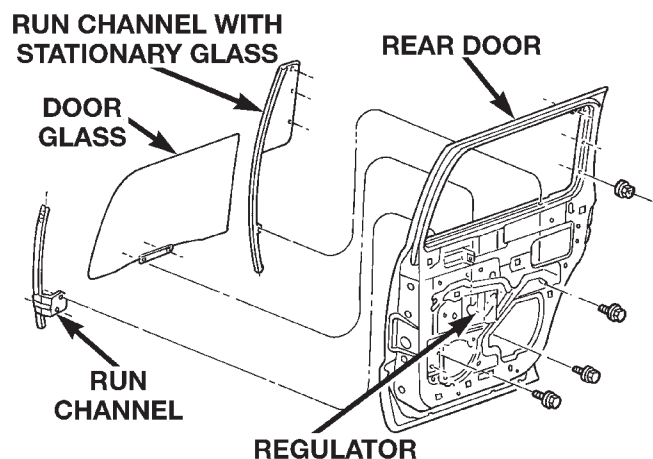

Fig. 6 Rear Door Stationary Glass
- (1) Remove trim panel.
- (2) Remove waterdam.
- (3) Remove inner beltline weatherstrip.
- (4) Remove outer beltline weatherstrip.
- (5) Remove door glass from door.
- (6) Remove bolt attaching bottom of rearward run channel to door inner panel.
- (7) Remove nuts attaching stationary glass to door (Fig. 6).
- (8) Separate rearward run channel/stationary glass from door.
- (9) Pull to separate stationary glass from run channel.
- (1) Ensure glass and run channel are clean.
- (2) Apply butyl adhesive to glass and insert in glass run channel.
- (3) Install nuts attaching stationary glass to door. Tighten nuts to 3 N·m (30 in. lbs.) torque (Fig. 6).
- (4) Install bolt attaching bottom of rearward run channel to door inner panel.
- (5) Position door glass in door.